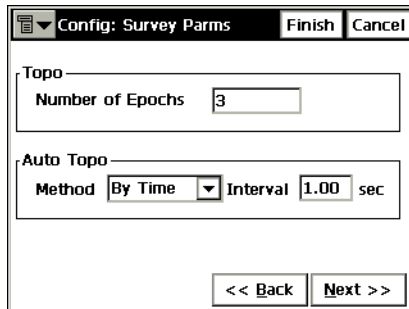

Figure 3-39. Config: Survey Params (PP Kinematic and PP DGPS)
6. On the **Config: Survey Params** screen, set the *Auto Topo Interval* multiple to the logging rate in the receiver (Figure 3-39).